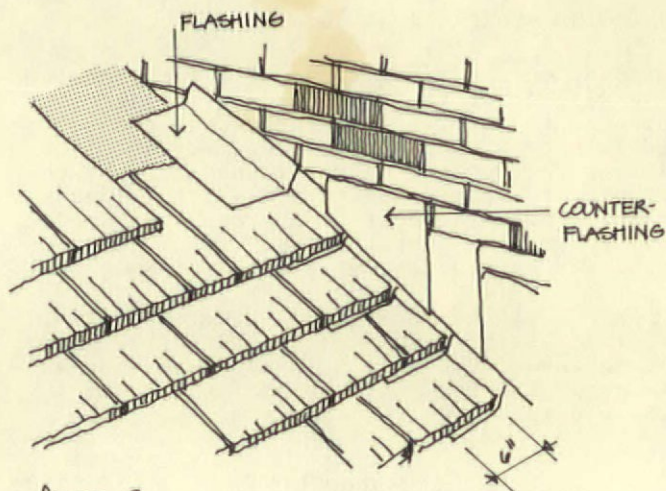

Figure 3
**A**NYTHING WHICH PROTRUDES through the roof or abuts it should be flashed and counter-flashed to prevent water leakage. Flashing should extend at least 6 in. under the shingles and should be covered by counter-flashing. (See figure 3)